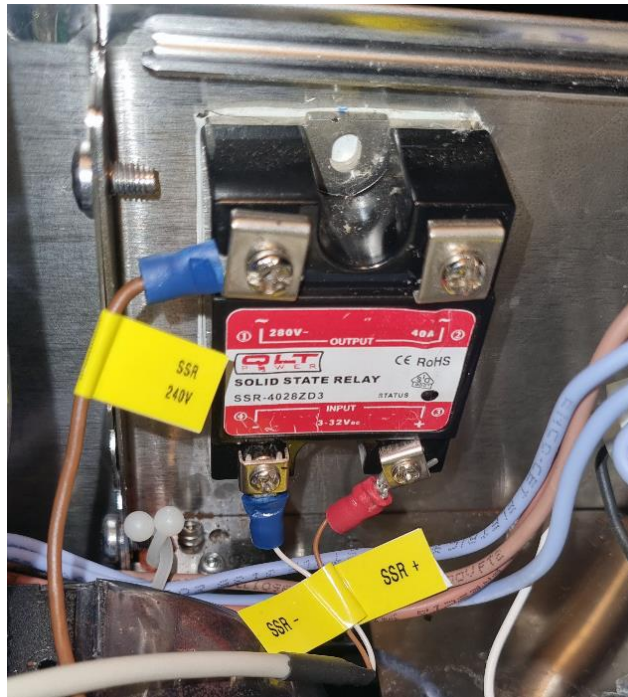

Fig.7.2
- Connect the SSR CABLE -5V+ to the relay to 3-32VDC ports (lower positions) , red to positive (+) and black to negative (-)(fig. 7.2)